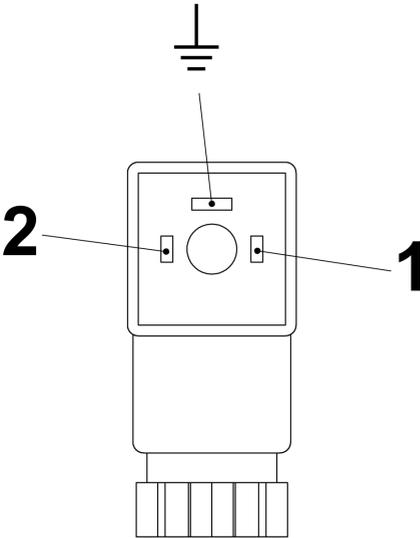
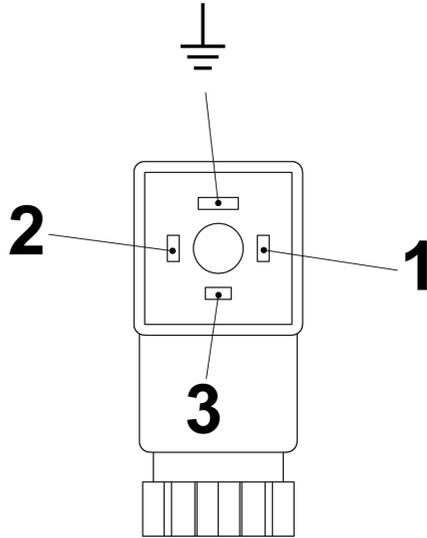

Fig. 25: Pin assignment, plug socket, normally-open contact (Form 15x50)
Fig. 26: Pin assignment, plug socket, change-over contact (Form 15x50)
6.  Make the connections as shown in connection diagrams (Fig. 25 and Fig. 26)